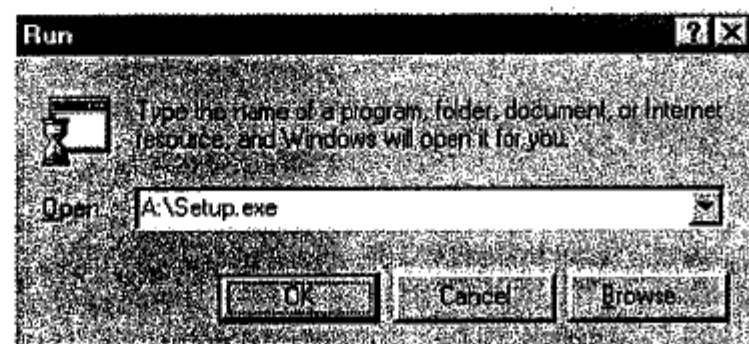

Figure 4-7
2. Insert the "SL-2000CD Driver & Utility" diskette into the floppy disk drive. Enter "A:\setup.exe" at "Open". Then click "OK" as shown in Figure 4-7.